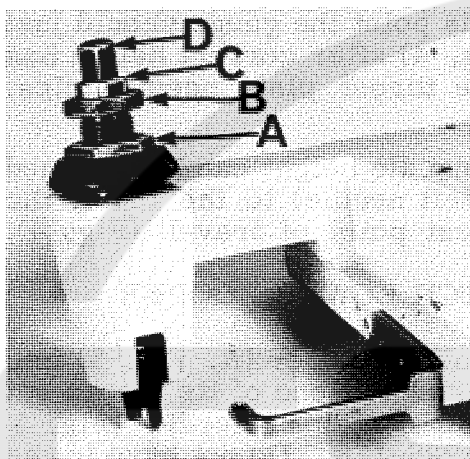

Fig. 3
Sufficient pressure to feed work uniformly should be maintained. Should it be necessary to increase or decrease amount of pressure on presser foot loosen lock nut (A, Fig. 3) and turn the adjusting screw (B). Adjusting screw has a right hand thread so tightening increases the pressure, loosening decreases pressure. When pressure adjusting screw (B) has been properly set, tighten lock nut (A). With presser foot resting on the throat plate, position locking nut (C) so that its under surface is approximately 1/32 inch to 1/16 inch from the top surface of adjusting screw (B). Set the cap (D) against the locking nut (C).